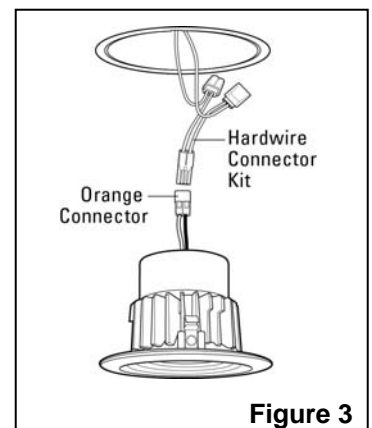

Figure 3
3. Remove the socket adapter from the box. Cut both adapter wires close to the socket adapter and away from the orange connector, and discard the socket. Remove the (2) red splice-connectors from the hardwire kit bag. Pair the housing and orange connector wires by color into each red connector. Firmly squeeze the metal U-shaped insert into the wires. Flip the cover closed to secure and insulate the connection. (See Figure 3)